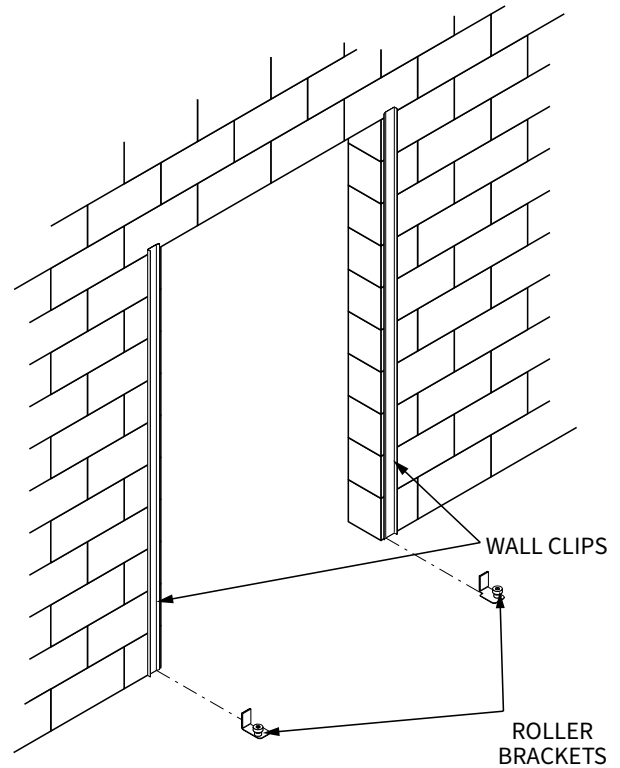

Figure 6: installing wall clips and roller brackets (Bottom roller brackets not present for leading edge on doors with breakout egress option).
2. Attach the left, right or both bottom roller brackets to the wall through the two holes in the bottom of wall clip (Figure 6).